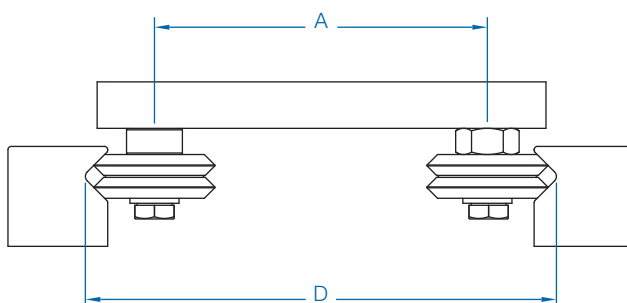

Figure 3 Exterior Mounting
- Exterior Mounting (See Figure 3):  $A = D - Y$